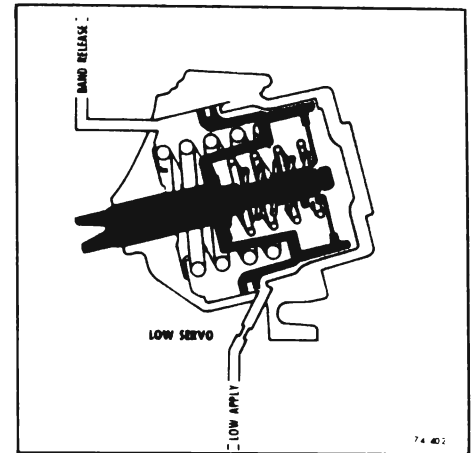

Figure 74-18 - Low Servo
j. Low Servo (See Figure 74-18)